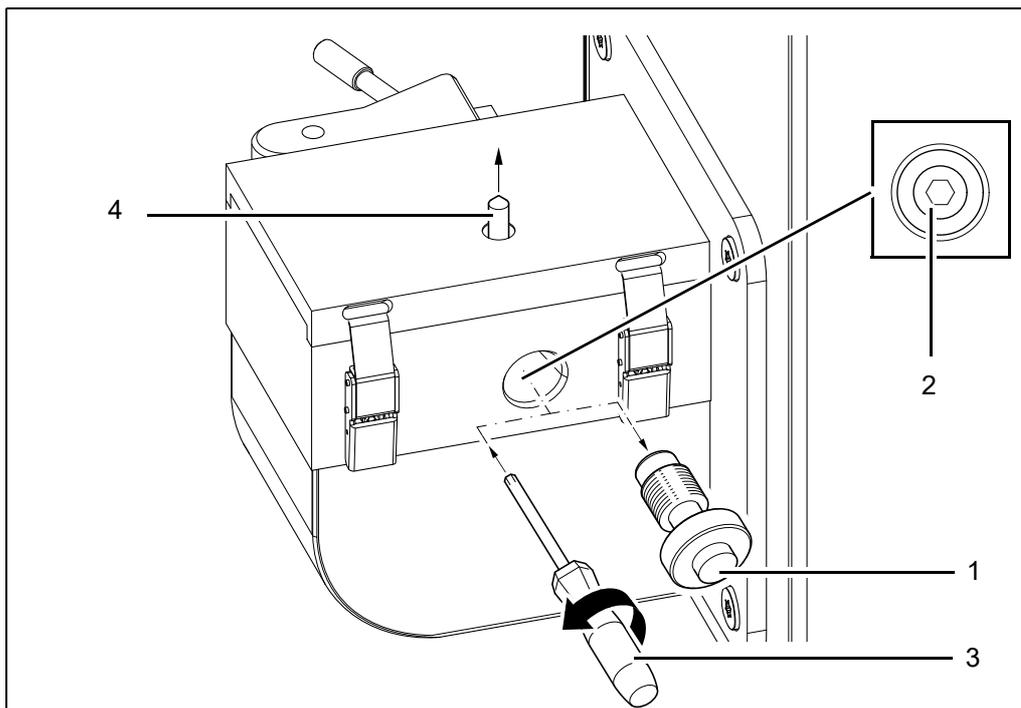

Fig. 9-4 Replacing the electrode
2. Screw out the spacer (1, fig. 9-4) on the right.
3. Loosen the inner grub screw (2) on the electrode clamp using a 2 mm Allen key (3).
- The electrode (4) is pushed out of the spark stand toward the top by a spring.